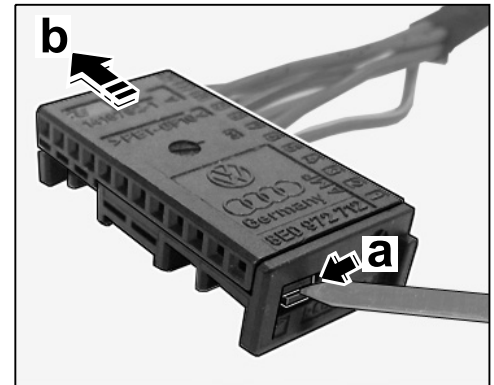

Figure 22
3.5.1 Release connector (12-pin) on vehicle side for switch for rear lowering (1BK) (see also ⇒ *Figure 22*).
3.5.2 Release new connector (12-pin, switch for trailer hitch – 1D3/1D9 and rear lowering (1BK) (⇒ *Figure 22*).